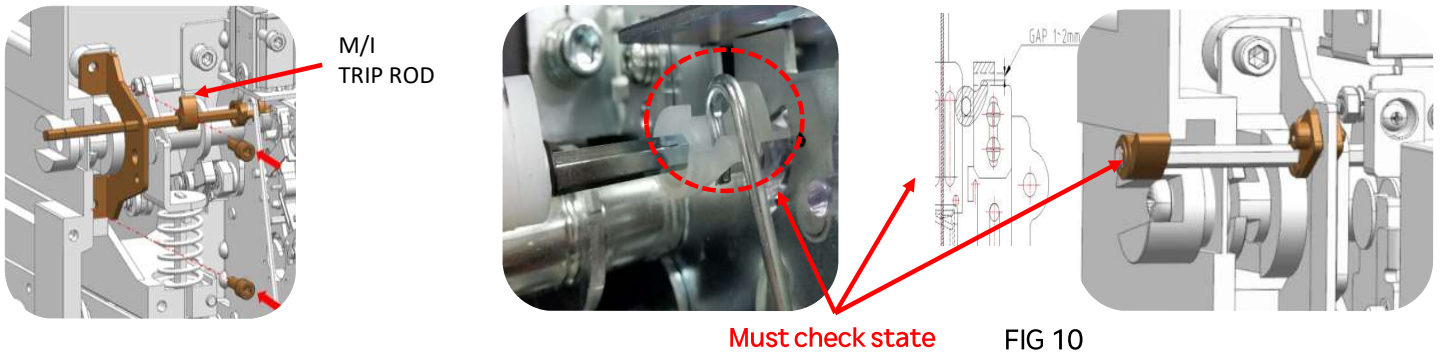

FIG 10
*MI Trip rod 교환 설치 / *Installation of MI Trip rod change [FIG 10]